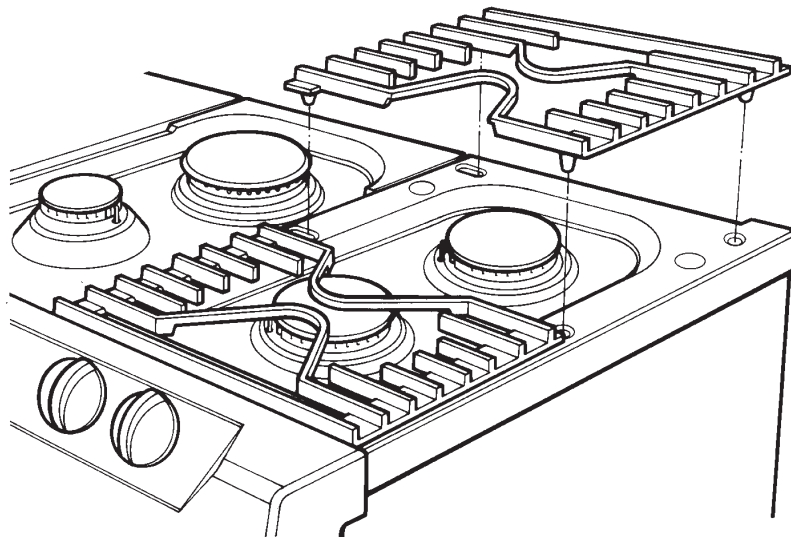
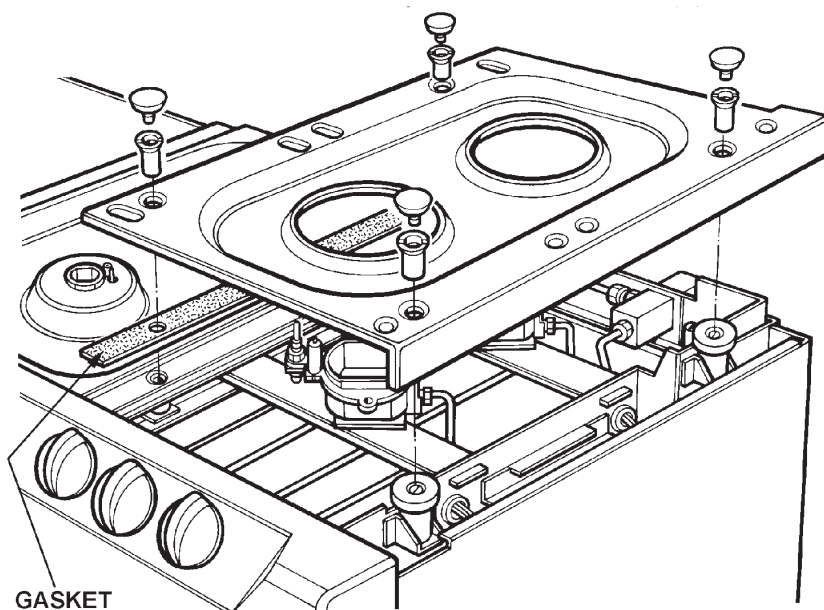

Fig. 22
Fig. 23
2. Remove pan supports and burner caps. (See Fig. 22)
3. Remove burner fixing screws (14) and hotplate fixing nuts (8).
4. Lift off burner fixing rings (6).
5. Lift off hotplate castings in the following order: left hand, right hand and centre. (See Fig. 23).